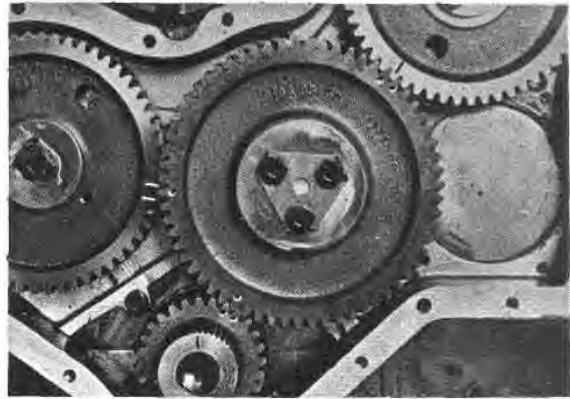

Fig. B39 — Driving Gear Timing Marks
4. Refit the idler gear to its hub with the timing marks on the crankshaft, camshaft, fuel pump and idler gears aligned (Fig. B39).
5. Refit the idler gear to its hub ensuring all timing marks are aligned (Fig. B39). Fit the idler gear retaining plate and secure to a torque of 21/24 lb./ft.
2. Re-align all timing marks (Fig. B39) by removing and replacing idler gear.
1. Fit the fuel pump gear to the shaft, locating the dowel of the gear into the slot on the fuel pump shaft and align the punch mark with the double punch marks on the idler gear (Figs. B39 and B42).